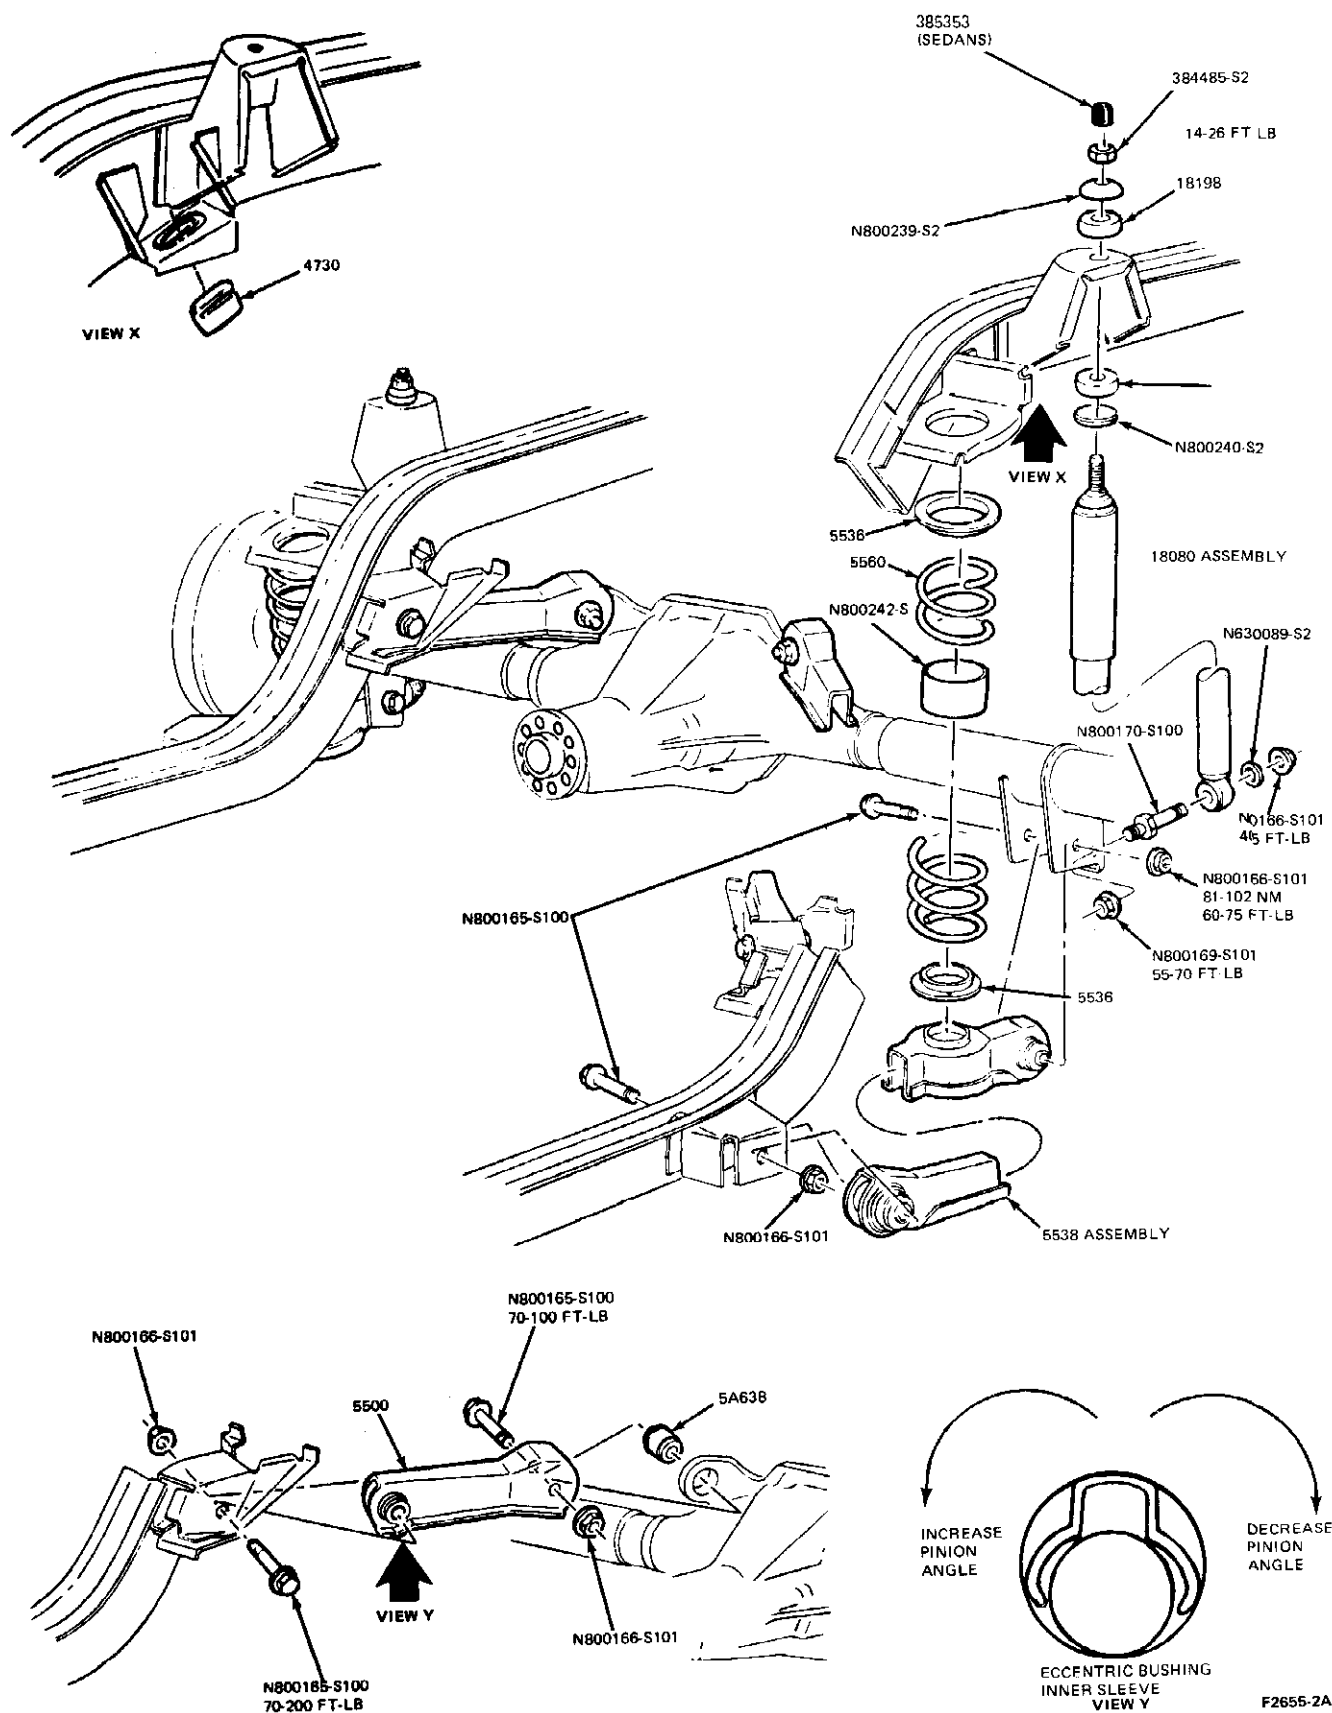

FIG. 3 Rear Suspension—Fairmont/Zephyr
The rear suspension is a four link coil spring suspension design. The rear axle is suspended from the body by two upper arms which control side to side movement and two lower arms which control forward and rearward movement. Shock absorbers are located on each side. Each coil spring is mounted between an upper seat which is welded to the body and a lower seat which is part of the lower arm assembly. The shock absorbers are attached to an upper shock bracket welded to the body and the lower shock bracket which is welded to the rear axle tubes. (Fig. 3)
1. Position the vee-magnet (part of Tool T68P-4602-A) on the drive shaft away from welds and balance weights (Fig. 3).
Removal (Refer to Fig. 3)
Installation (Refer to Fig. 3)